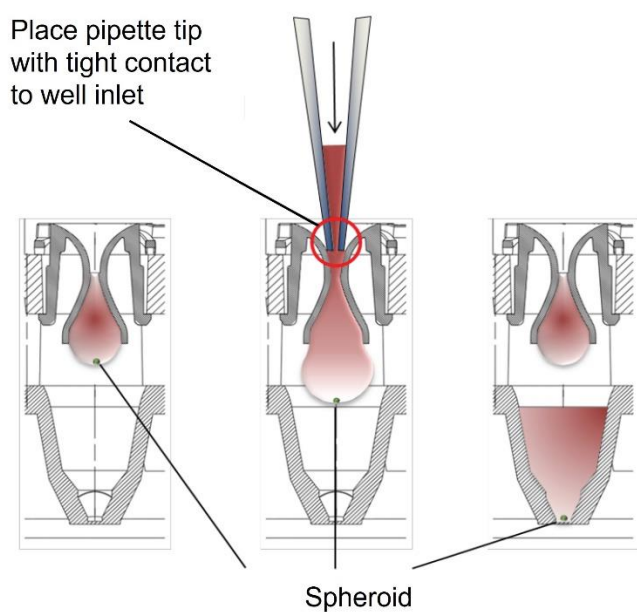

Figure 8: 3D cell culture model transfer from the Akura™ PLUS Plate into the Akura™ 96 Plate.
2. Slowly (i.e., $\leq 10 \mu\text{l}/\text{sec}$ when using Integra Viaflo pipettes) add 70 μl of medium through the inlet of the Akura™ PLUS Plate wells. The pipette tips should be in direct contact with the well inlets by simultaneously applying a subtle pressure with the pipette. The drops will fall into the Akura™ 96 Plate (Fig. 8).